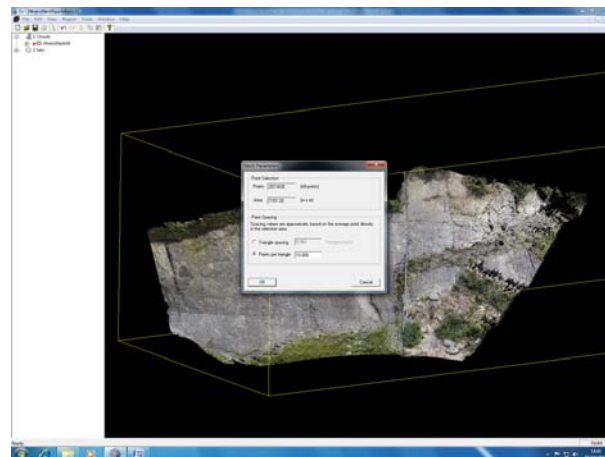

Figure 6 – Define mesh parameters
- When the point cloud has been edited and is ready to be meshed go to ‘Point Cloud’ in the main tool bar then select ‘Create Mesh’. A box will appear as shown in Figure 6. You can control the size of triangles in your mesh. Recommended starting point spacing is 0.15m. Point spacing will depend on the resolution of the scan relative to the scale and roughness of surface you want to measure. Select ‘OK’ and the mesh will generate. Visually inspect the mesh to see if the triangle size is fine enough to represent the detail of the rock surface. You can toggle the point cloud or mesh on and off and rotate the model to aid visual comparison.